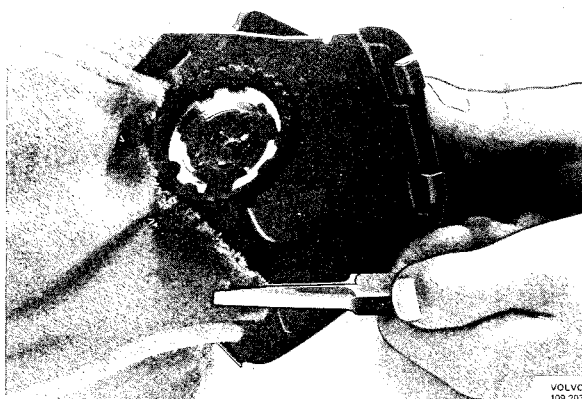

Fig. 8-64. Installing side upholstery
- 14. Bend out the sheet metal tabs of the seat reclining mechanisms. Fit and hook on the side upholstery, see Fig. 8-64, and then reshape the tabs.